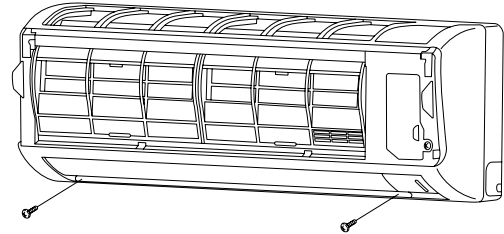
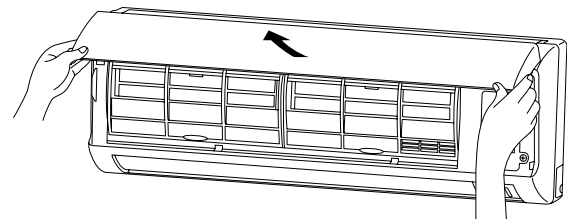

Fig. 3-23
Fig. 3-26
- (2) Remove the 2 screws. (Fig. 3-23)
- (2) Make sure that the grille and frame are firmly fitted together by engaging the tabs.
- (3) Affix the grille with the 2 previously removed screws. (Fig. 3-23)
- (4) Install the air intake grille.
- a) Allow the edge of the air intake grille to slide into the top of the indoor unit, and then insert it all the way inside. (Fig. 3-26)